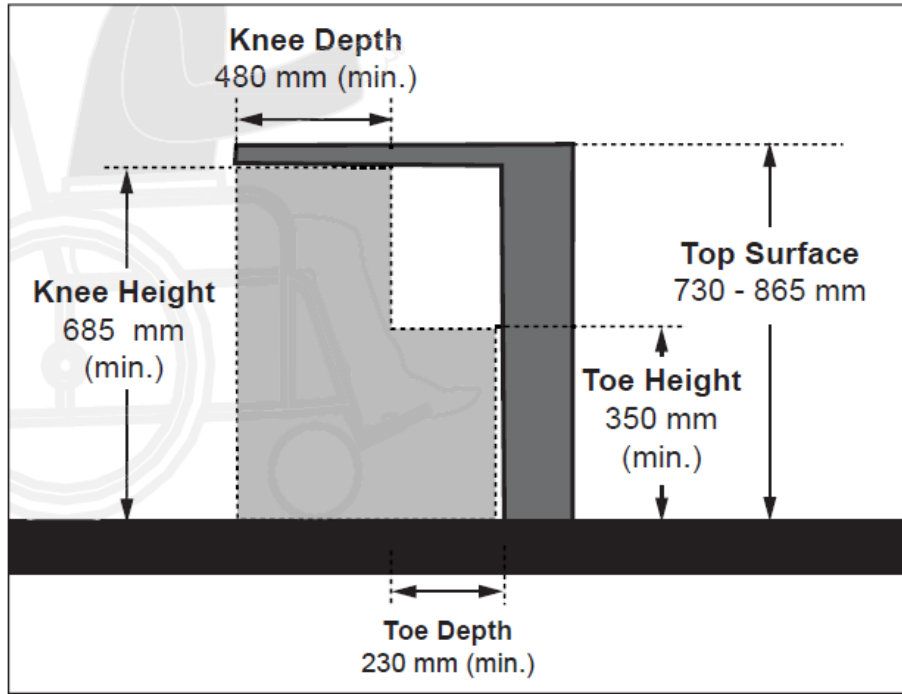

Figure 43: Knee and Toe Clearances at Tables or Work Surfaces – Elevation View
- Knee clearance: Minimum 915 mm wide by 685 mm high by 480 mm deep (see Figure 43)